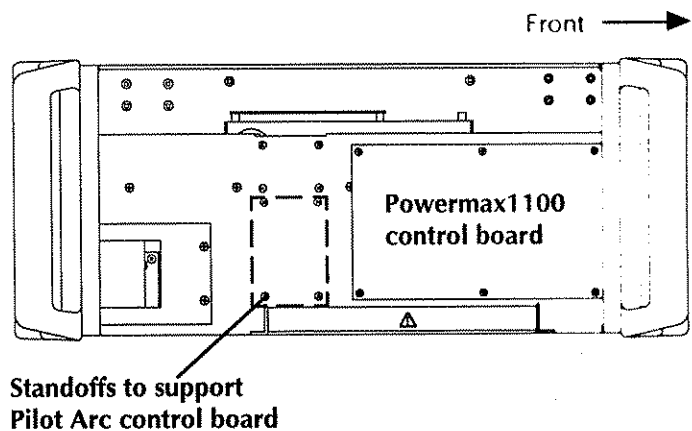

Figure 2 Top View Before PA Control Board Installation
4. Locate the standoffs next to the Powermax1100 control board. The lower four standoffs will support the Pilot Arc (PA) control board - Fig. 2.